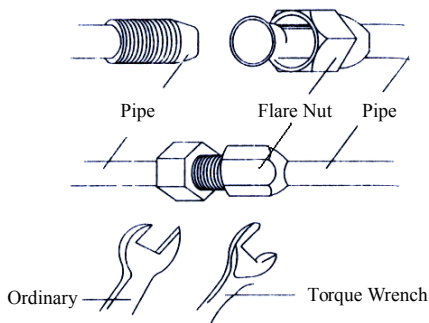

Fig. 6
- 1) Refer to Fig.6 for the moments of torque for tightening screws.
- 3) After that, tighten the screw by the torque wrench unit it clatters (as shown in Fig.6).